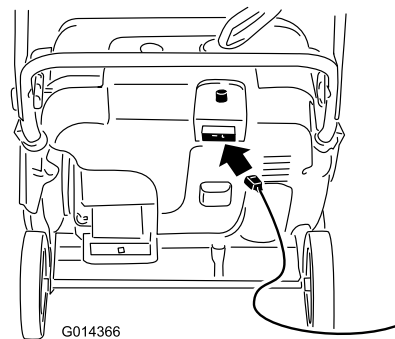
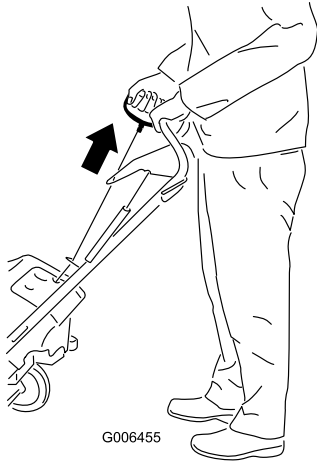

Figure 17
Figure 18
- Connect an extension cord to a power source and the machine, and push the electric-start button (Figure 17), or pull the recoil start handle (Figure 18).